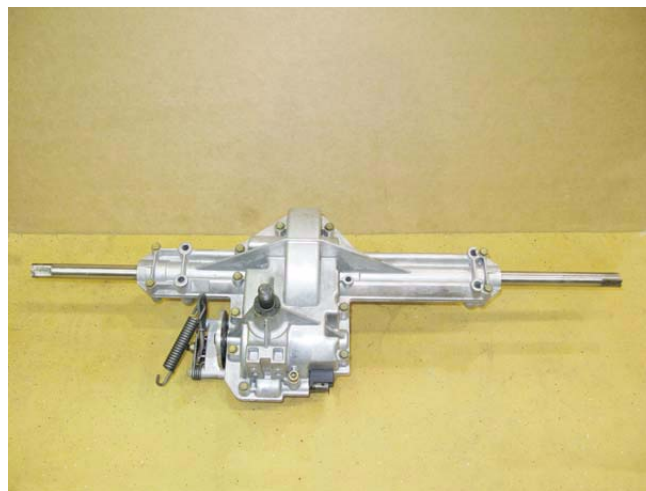

Figure 5.58
1. Assess the damage from the outside; See Figure 5.58.